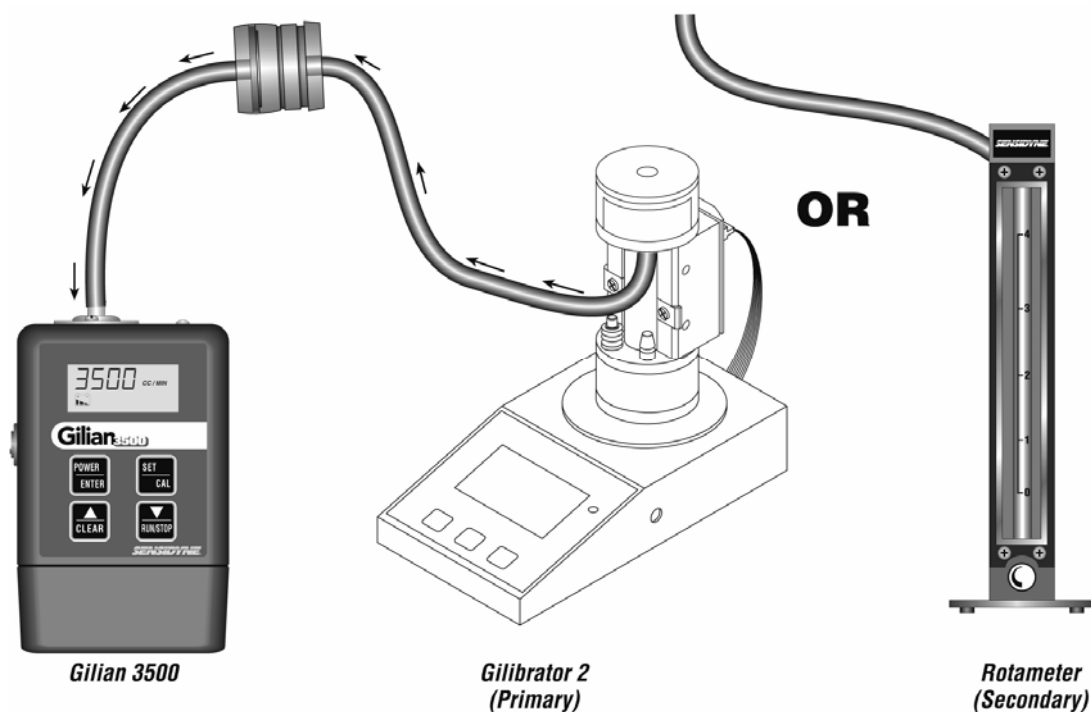

Figure 2.3
- See Figure 2.3
(1) Prepare a Gilibrator-2 using a standard wet cell.